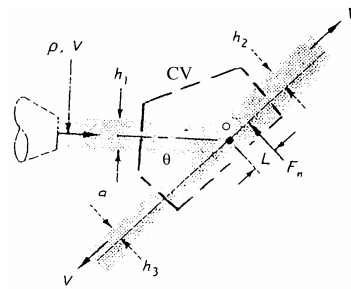

Fig. P3.122
3.122 Extend Prob. 3.46 to the problem of computing the center of pressure L of the normal face F_n , as in Fig. P3.122. (At the center of pressure, no moments are required to hold the plate at rest.) Neglect friction. Express your result in terms of the sheet thickness h_1 and the angle θ between the plate and the oncoming jet 1 .